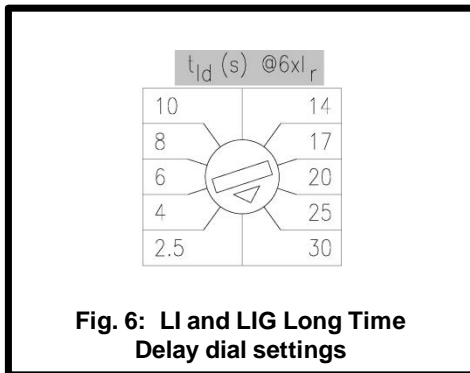
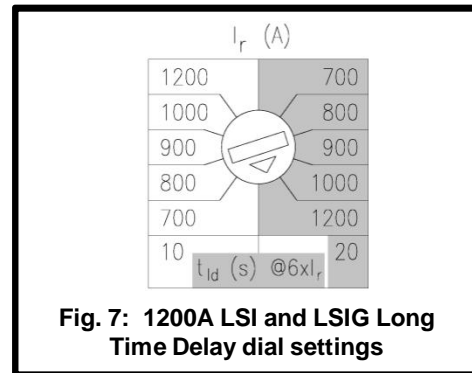

Fig. 6: LI and LIG Long Time Delay dial settings
Fig. 7: 1200A LSI and LSIg Long Time Delay dial settings
All model types have an adjustable Long Time Delay. The Long Time Delay times are an I^2t function calibrated at 6 times the Continuous Current setting. For LI and LIG breakers (see Fig. 6), there are ten (10) Long Time Delay settings that range from 2.5 to 30 seconds. For LSI and LSIg breakers (see Fig. 7), there are two Long Time Delay settings which are selected based on the Continuous Current setting. As shown in Fig. 7, the Continuous Current settings on the left selects a Long Time Delay setting of 10 seconds and the Continuous Current settings on the right select a Long time Delay setting of 20 seconds.